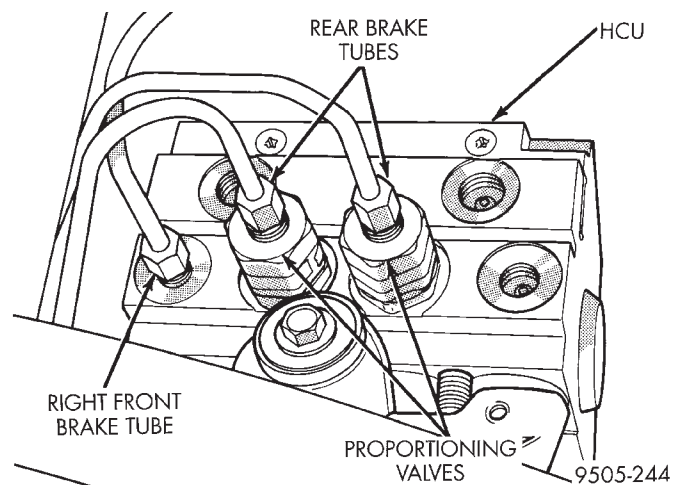
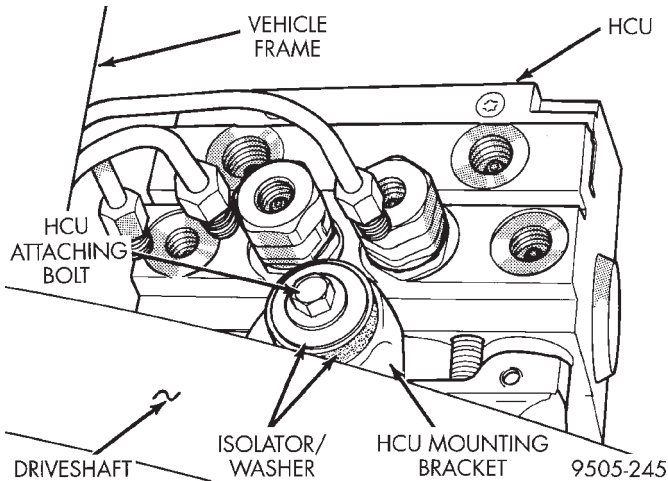

Fig. 19 Rear Brake Tubes And Right Front Brake Tube At HCU
Fig. 20 Front Attachment Of HCU To Mounting Bracket
(11) Remove the 2 rear brake tubes from the proportioning valves and the right front brake tube from the outlet port of the HCU (Fig. 19).
(12) Remove bolt (Fig. 20) attaching the front of the HCU to its mounting bracket.
(3) Install mounting isolator, washer and attaching bolt, (Fig. 20) mounting the front of the HCU to the mounting bracket. **Do not tighten bolt at this time.**
(4) Then tighten the 3 HCU mounting bolts to a torque of 28 N·m (248 in. lbs.).
(5) Install the 2 rear brake tubes on the proportioning valves and the right front brake tube in the outlet port of the HCU (Fig. 19). Tighten the 3 brake tube nuts to a torque of 20 N·m (180 in. lbs.).